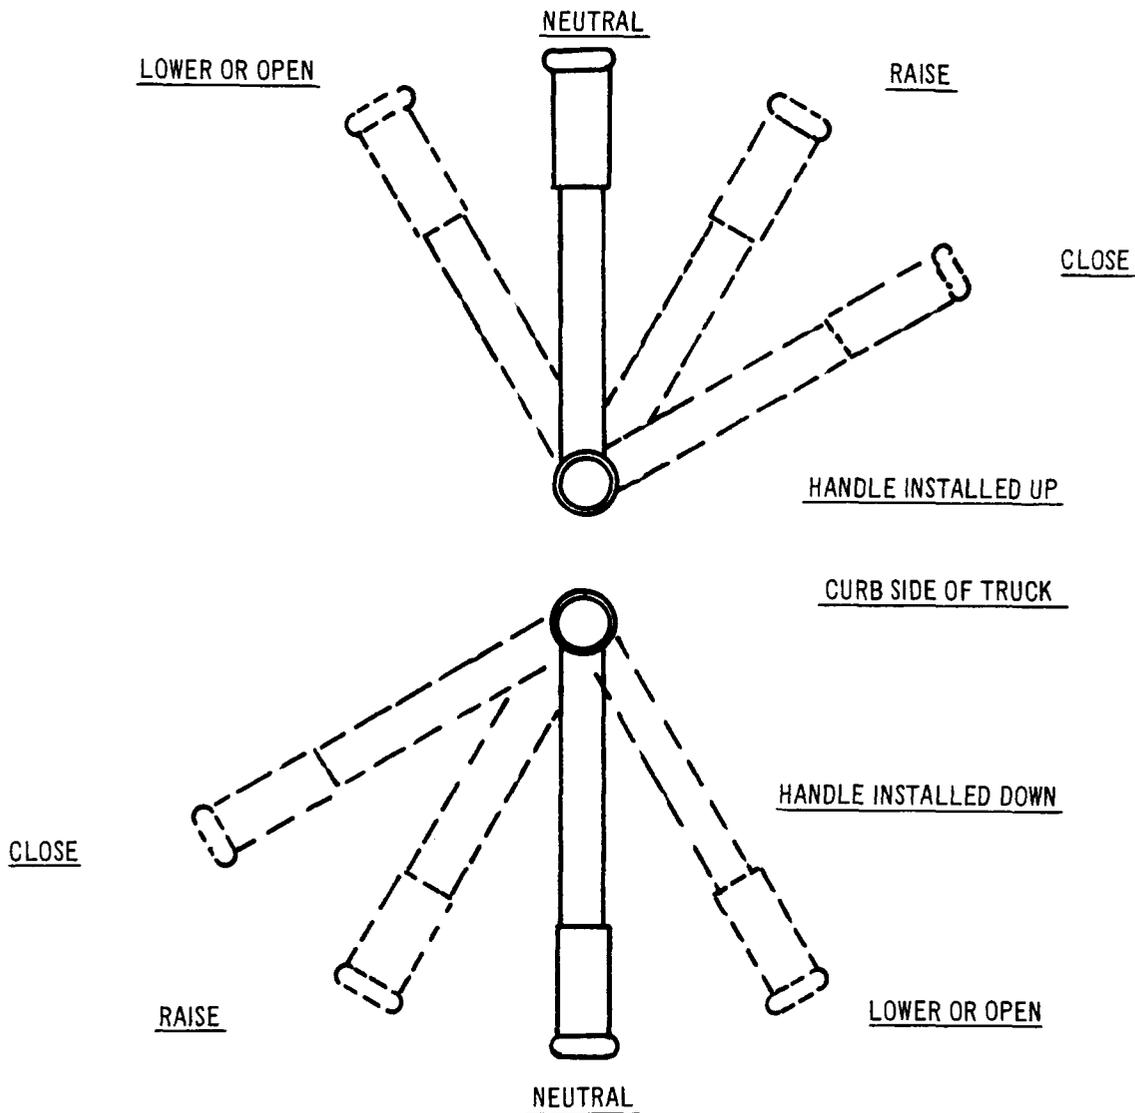

Fig. 26
16.01 Before opening or lowering the lift gate, move operating handle to the "raise" position, to disengage the safety hooks. See Fig. 26.
(b) Move operating handle to "close" position. Forks will engage idler arms and gate will close. See Fig. 26.